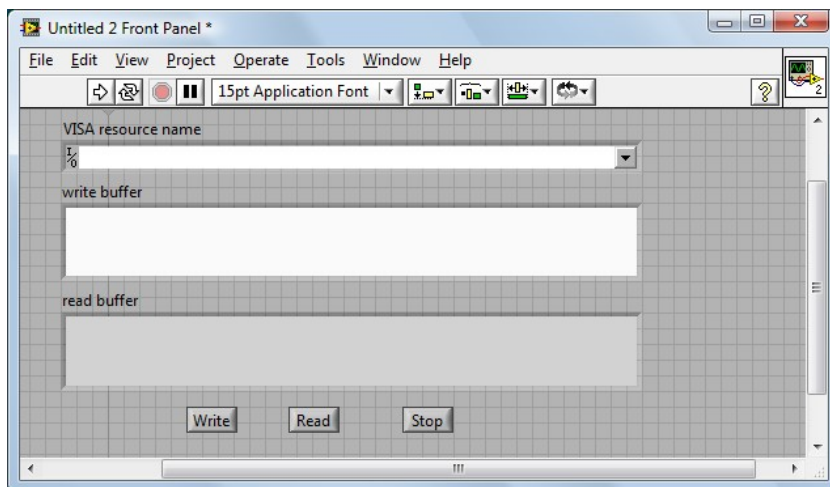

Figure 4-3-6
20. Adjust the style of the Front Panel shown as figure 4-3-6.